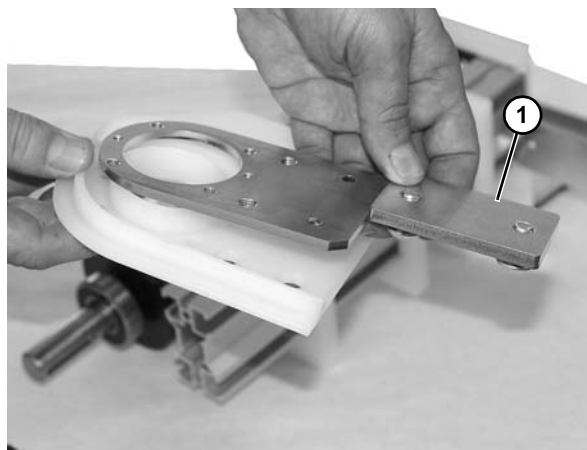

Figure 54
8. Remove from drive backing plate (Figure 54, item 1).